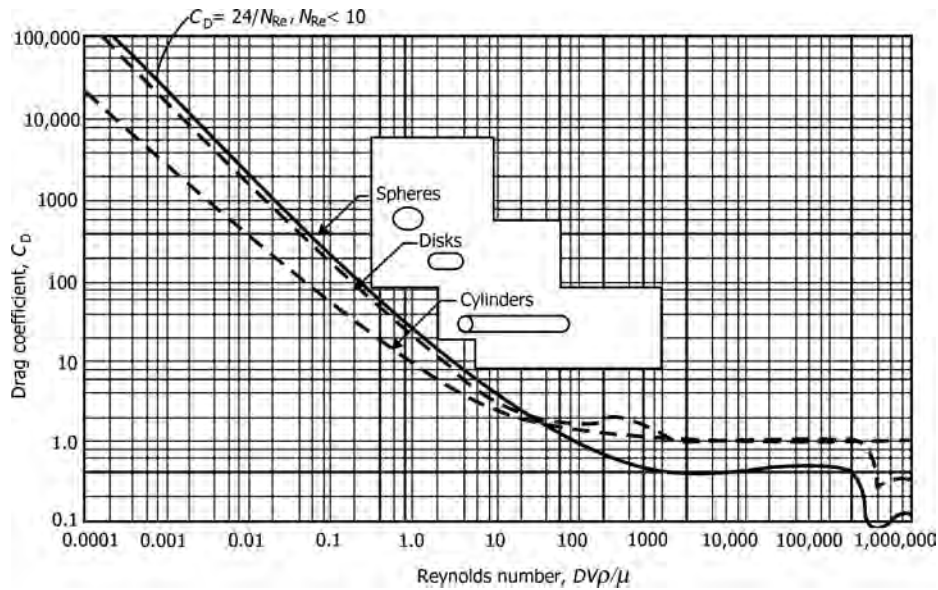

FIGURE 2.7 Drag coefficients for spheres, disks, and cylinders.
- Figure 2.7 illustrates this point.